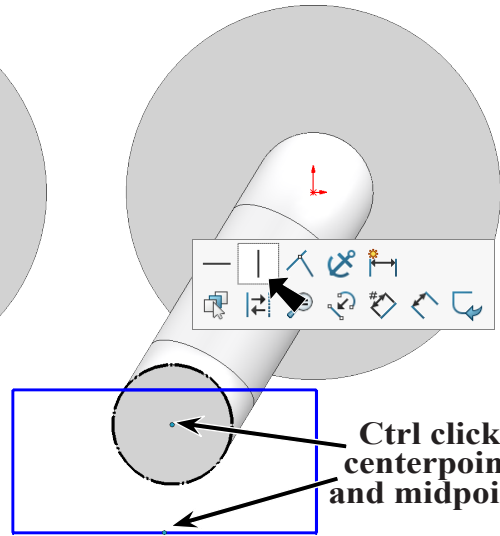

Fig. 30
Step 10. **Ctrl click midpoint of a horizontal line and centerpoint of construction circle to select both.** Release Ctrl key and click **Make Vertical**  on the context toolbar, **Fig. 30**.